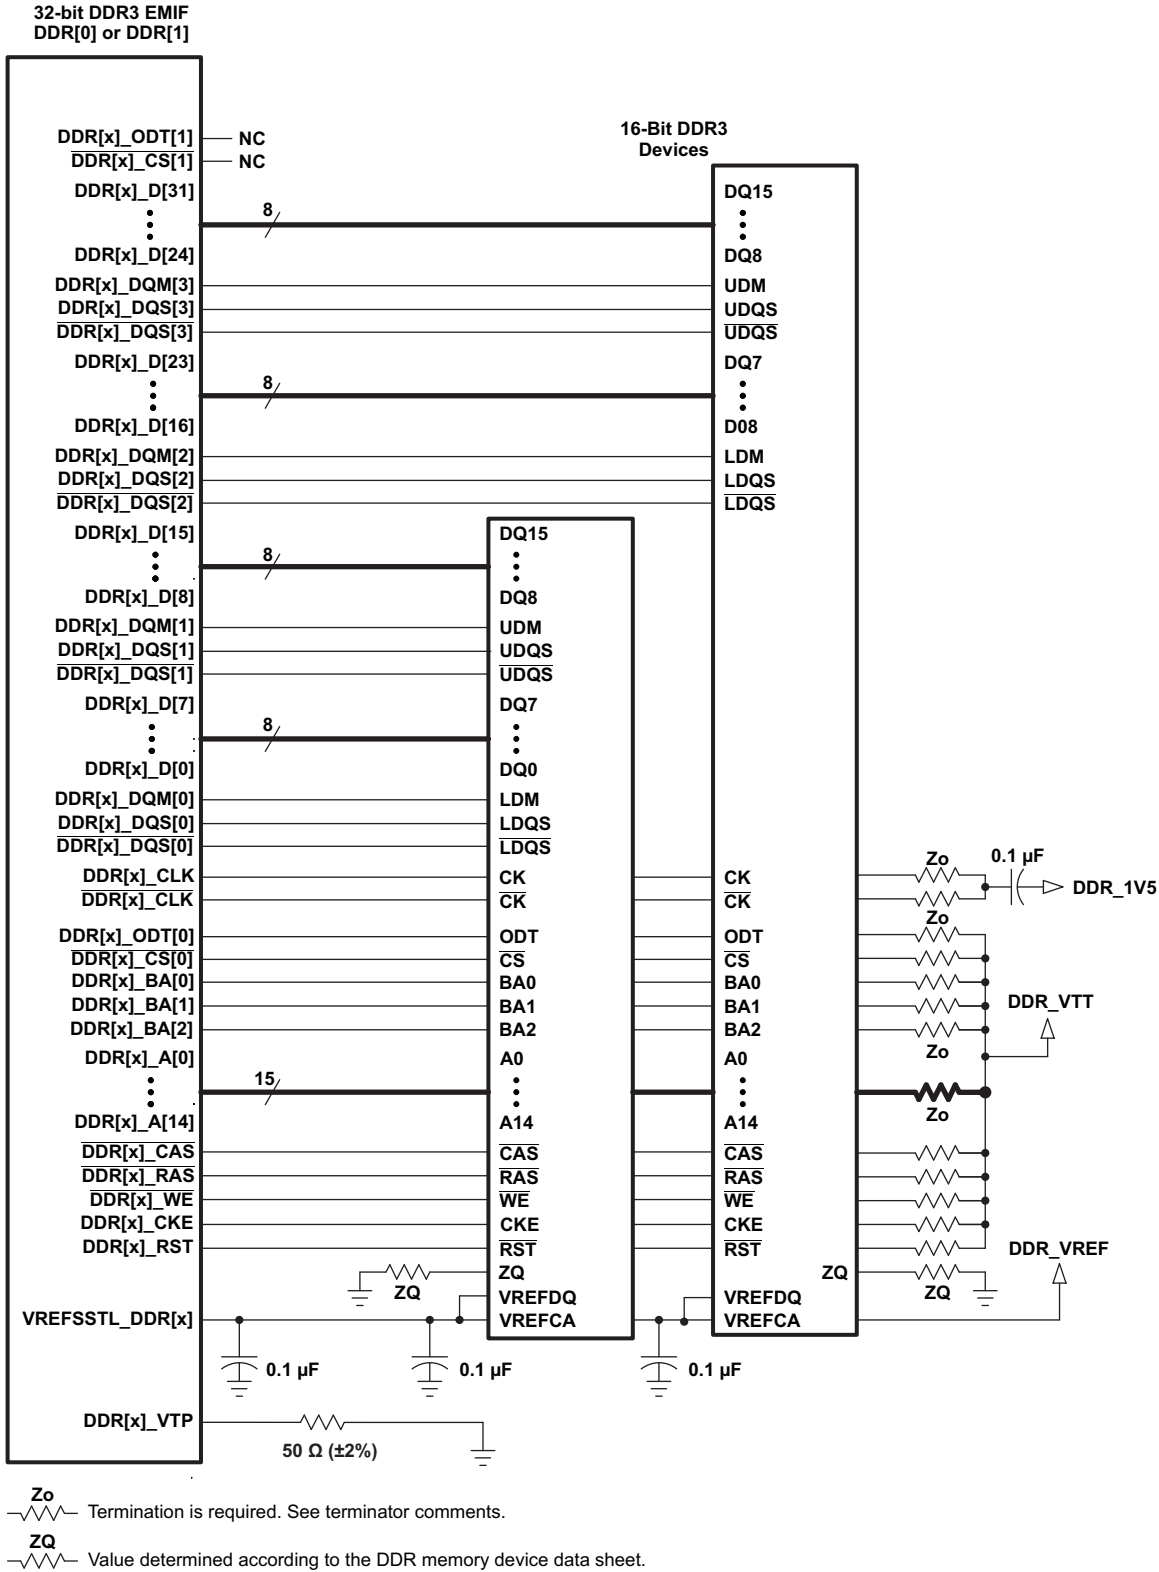
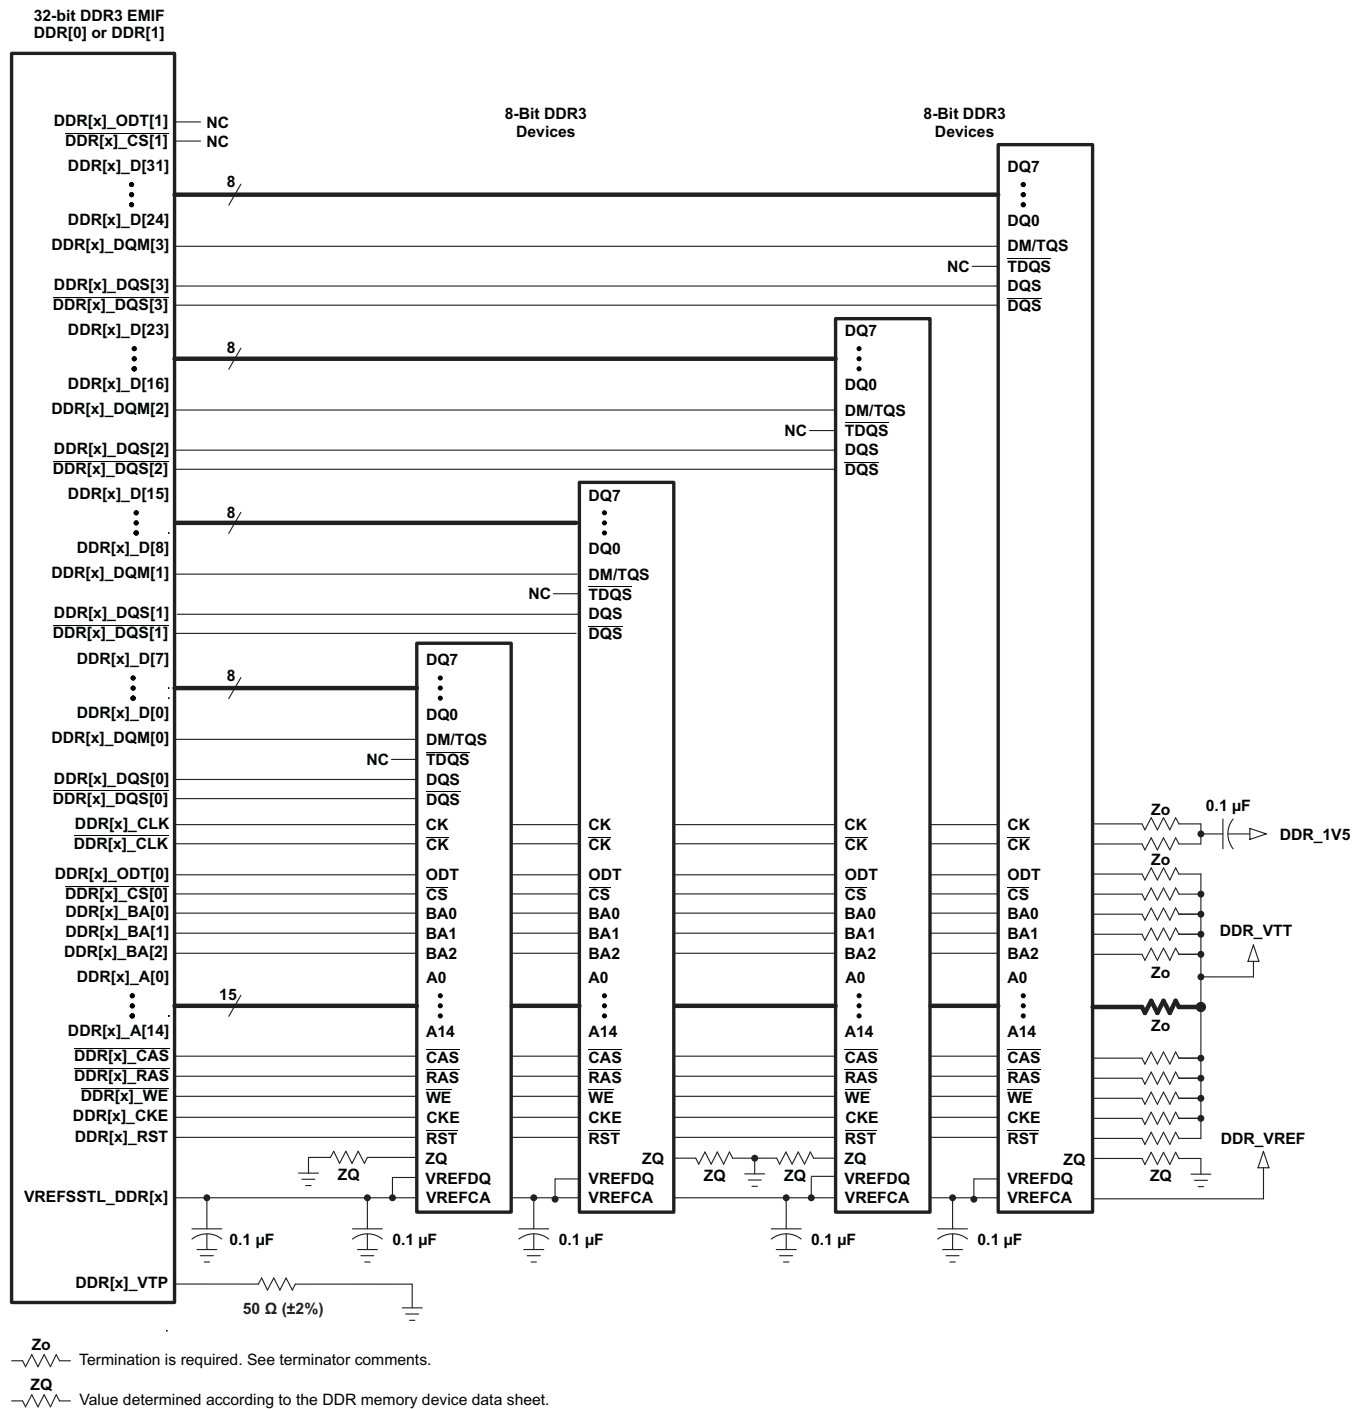

Figure 8-56. 32-Bit, One-Bank DDR3 Interface Schematic Using Two 16-Bit DDR3 Devices
Figure 8-57. 32-Bit, One-Bank DDR3 Interface Schematic Using Four 8-Bit DDR3 Devices
The DDR3 interface schematic varies, depending upon the width of the DDR3 devices used and the width of the bus used (16 or 32 bits). General connectivity is straightforward and very similar. 16-bit DDR devices look like two 8-bit devices. Figure 8-56 and Figure 8-57 show the schematic connections for 32-bit interfaces using x16 devices.
Note that the 16-bit wide interface schematic is practically identical to the 32-bit interface (see Figure 8-56 and Figure 8-57); only the high-word DDR memories are removed and the unused DQS inputs are tied off. The MPU DDR[x]\_DQS[2] and DDR[x]\_DQS[3] pins should be pulled to the DDR supply via 1-kΩ resistors. Similarly, the  $\overline{\text{DDR}}[x]_{\text{DQS}}[2]$  and  $\overline{\text{DDR}}[x]_{\text{DQS}}[3]$  pins should be pulled to ground via 1-kΩ resistors.
(1) DDR3 speed grade depends on desired clock rate. Data rate is 2x the clock rate. For DDR3-800, the clock rate is 400 MHz.
(2) DDR3 devices with speed grades up to DDR3-1600 are supported; however, max clock rate will still be limited to 400 MHz as stated in Table 8-61 *Switching Characteristics Over Recommended Operating Conditions for DDR3 Memory Controller*.
(3) For valid DDR3 device configurations and device counts, see Section 8.13.1.2.3, Figure 8-56, and Figure 8-57.